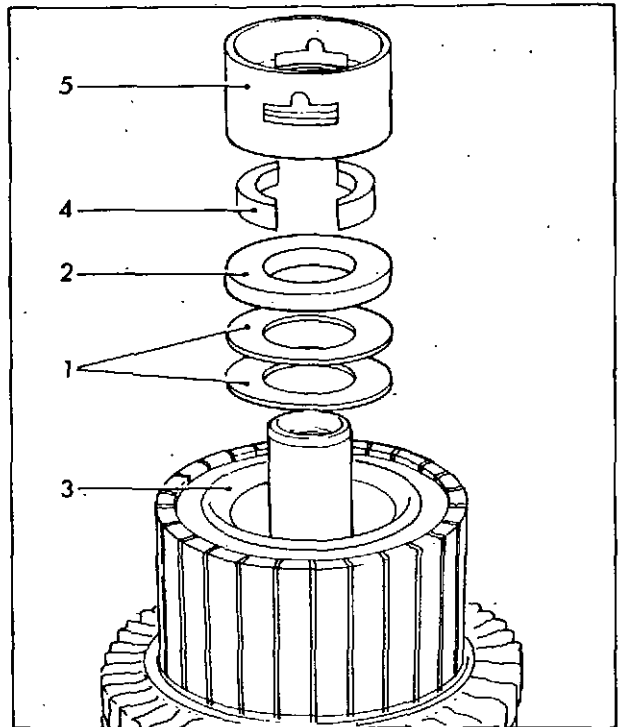

Fig. 23 Replacing armature shaft
Smear the original shims (1) fig. 23 and thrust washer (2) and insert in correct order into commutator sleeve (3). Ensure that the shaft is fully home by applying slight downward pressure and fit keys (4) into the annular groove of the shaft.